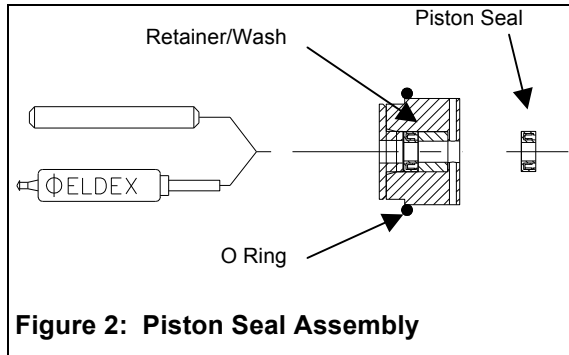
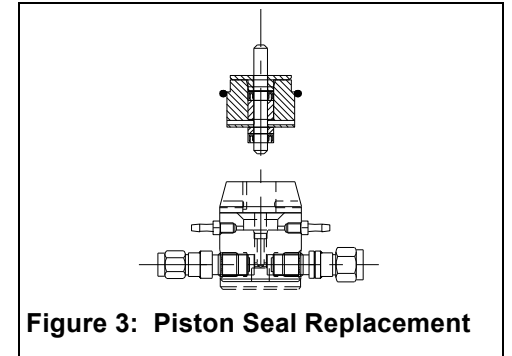

Figure 2: Piston Seal Assembly
Figure 3: Piston Seal Replacement
10. Insert the installation tool/dowel pin into the retainer and then into the new piston seal. When inserting the tool through the new piston seal, the piston seal should lay flat on a hard surface with the open side down (the seal will generally "snap" onto the tool). Position the parts on the tool as shown in Figure 2. Line up the holes in the retainer/wash with the wash ports on the liquid end. Insert the tool into the liquid end bore as shown in Figure 3. **CAUTION:** the open side of the seal (side revealing the spring or the O ring) should face the closed (fluid side) end of the liquid end.